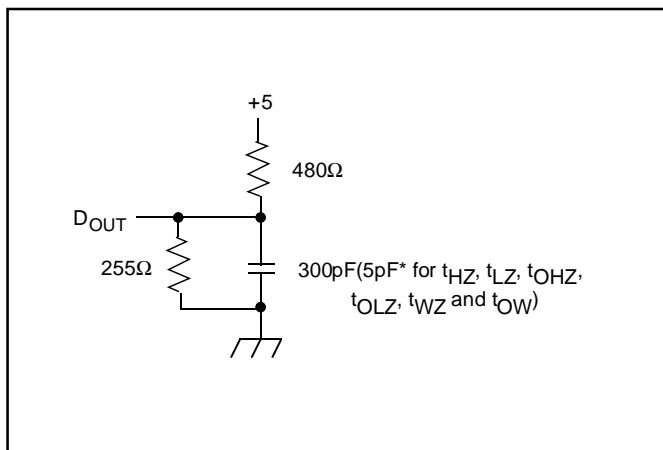

Figure 1. Output Load
- 8. Transition is measured $\pm 200\text{mV}$ from steady state voltage prior to change, with loading as specified in Figure 1.
Output Load	See Figures 1 and 2